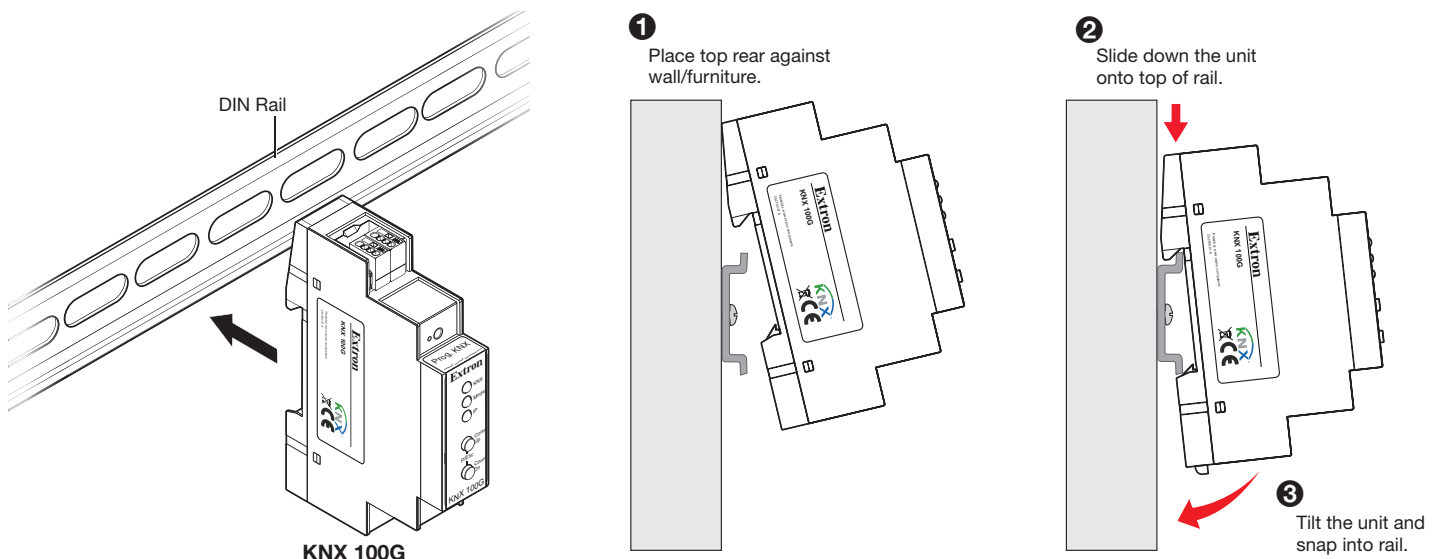

Figure 2. KNX 100G DIN Rail Installation
2. Place top rear against wall/furniture (Figure 2, ①).
3. Slide the unit down onto top of rail (Figure 2, ②).
4. Tilt the unit and snap onto the rail (Figure 2, ③).